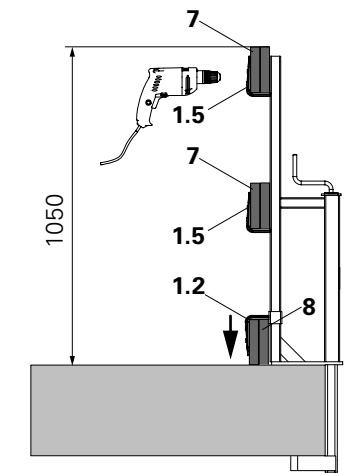

Fig. A2.05
- Fix toe boards and guardrails with suitable nails or screws to the L-angles (1.5) and toe board holders (1.2). (Fig. A2.05)